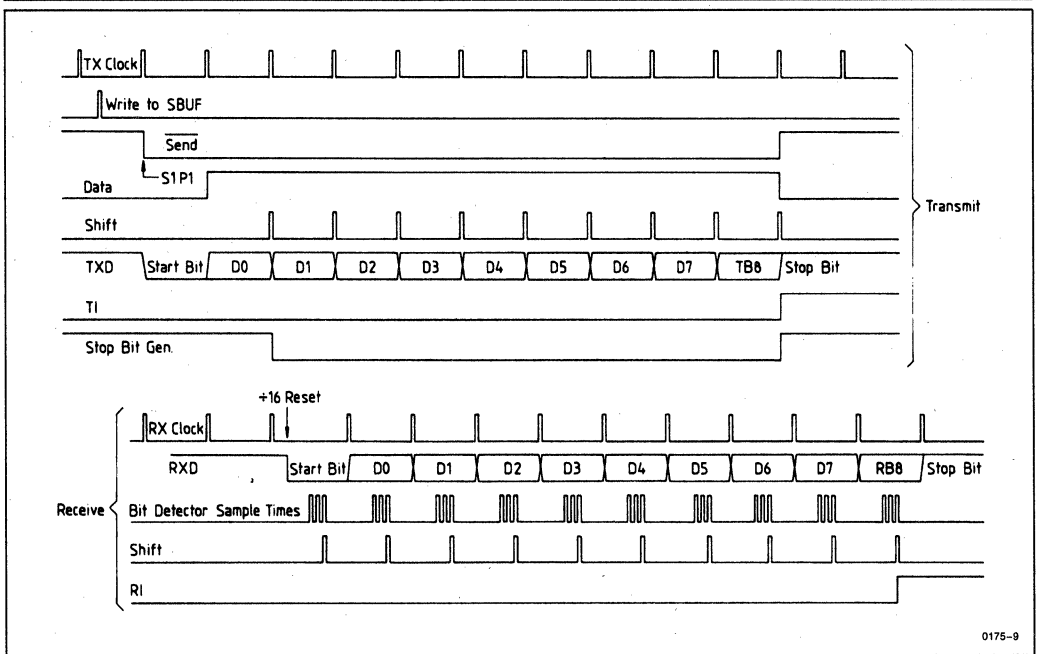

Figure 3-10. Serial Port Mode 2 and Mode 3, Timing
Eleven bits are transmitted (through TxD), or received (through RxD): a start bit (0), 8 data bits (LSB first), a programmable 9th data bit, and a stop bit (1). On transmission, the 9th data bit (TB8) can be assigned the value of 0 or 1. On reception, the 9th data bit goes into RB8 in SCON. Figure 3-10 shows the associated timings for mode 3. The receive portion